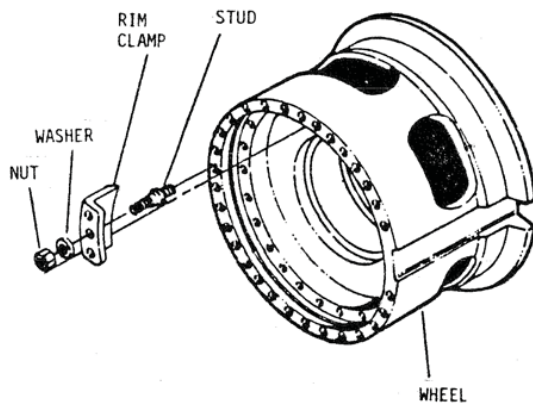

FIGURE 22
K. Rim Clamp Stud Installation - Figure 22.